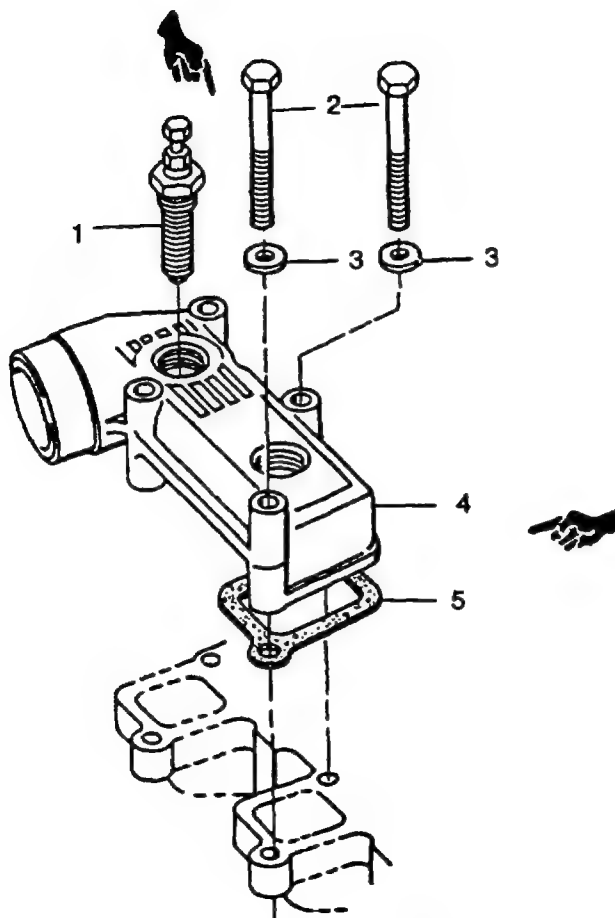

FIGURE 3-2. Intake Manifold
- b. Tag and disconnect electrical leads from heater plugs (1) **FIGURE 3-2**.
- c. If damaged or defective, remove heater plugs (1) from manifold.
- d. Remove four bolts (2), four washers (3), intake manifold (4), and two gaskets (5). Discard gaskets (5).
- b. Install new or tested heater plugs (1) **FIGURE 3-2** in manifold (4).
- c. Clean intake manifold (4) and cylinder head mating surfaces of any traces of old gasket.
- d. Position two new gaskets (5) and intake manifold (4) on cylinder head.
- e. Install four washers (3) and four bolts (2). Tighten bolts to 78 in-lbs (8.8 Nm).